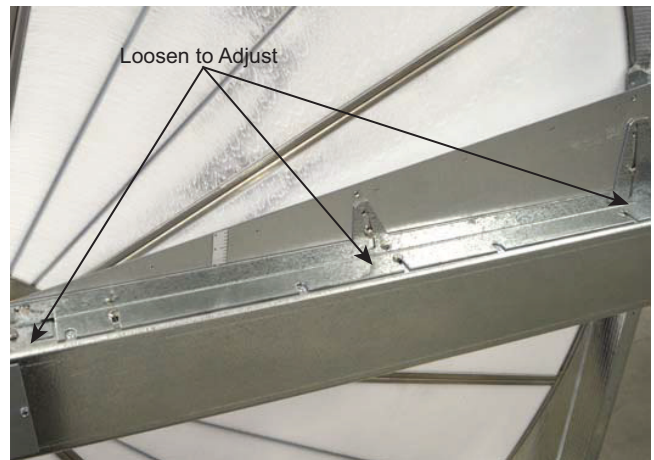

Fig. 24 — Purge Installed On Motor Side Of Wheel
1. Loosen the three purge adjusting screws (Fig. 24).